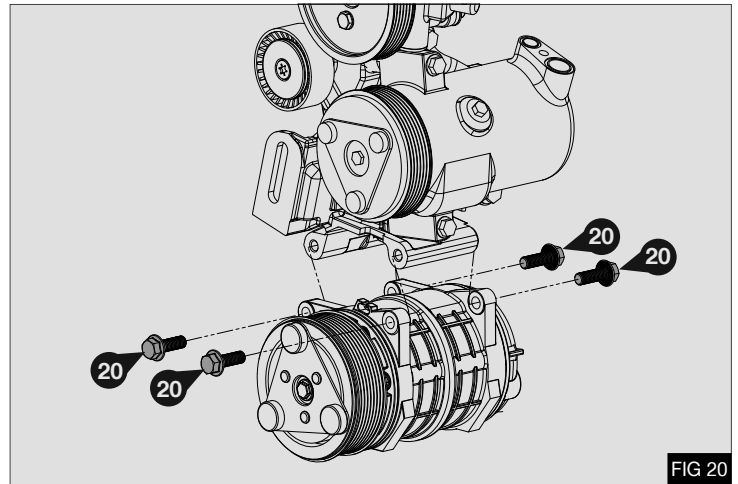

FIG 20
1. Fit compressor assembly to the mount bracket (1) using 4 x M10 x 30 bolts (20) - Fig 20
2. Torque the bolts (20) to 58Nm/43Lbft